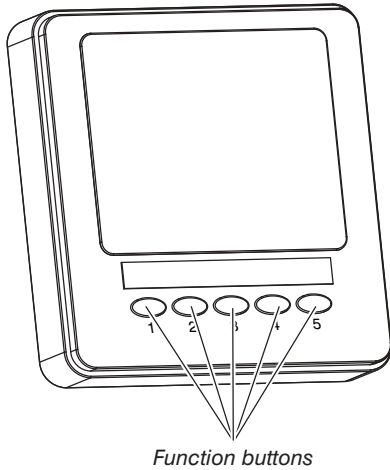

Figure 35 Engine Data Display Module
The DEUTZ Display combines a graphic LCD display with five function buttons at the bottom of the screen. See Figure 35.
5. The menu, as shown in Figure 35, appears in the setting mode.